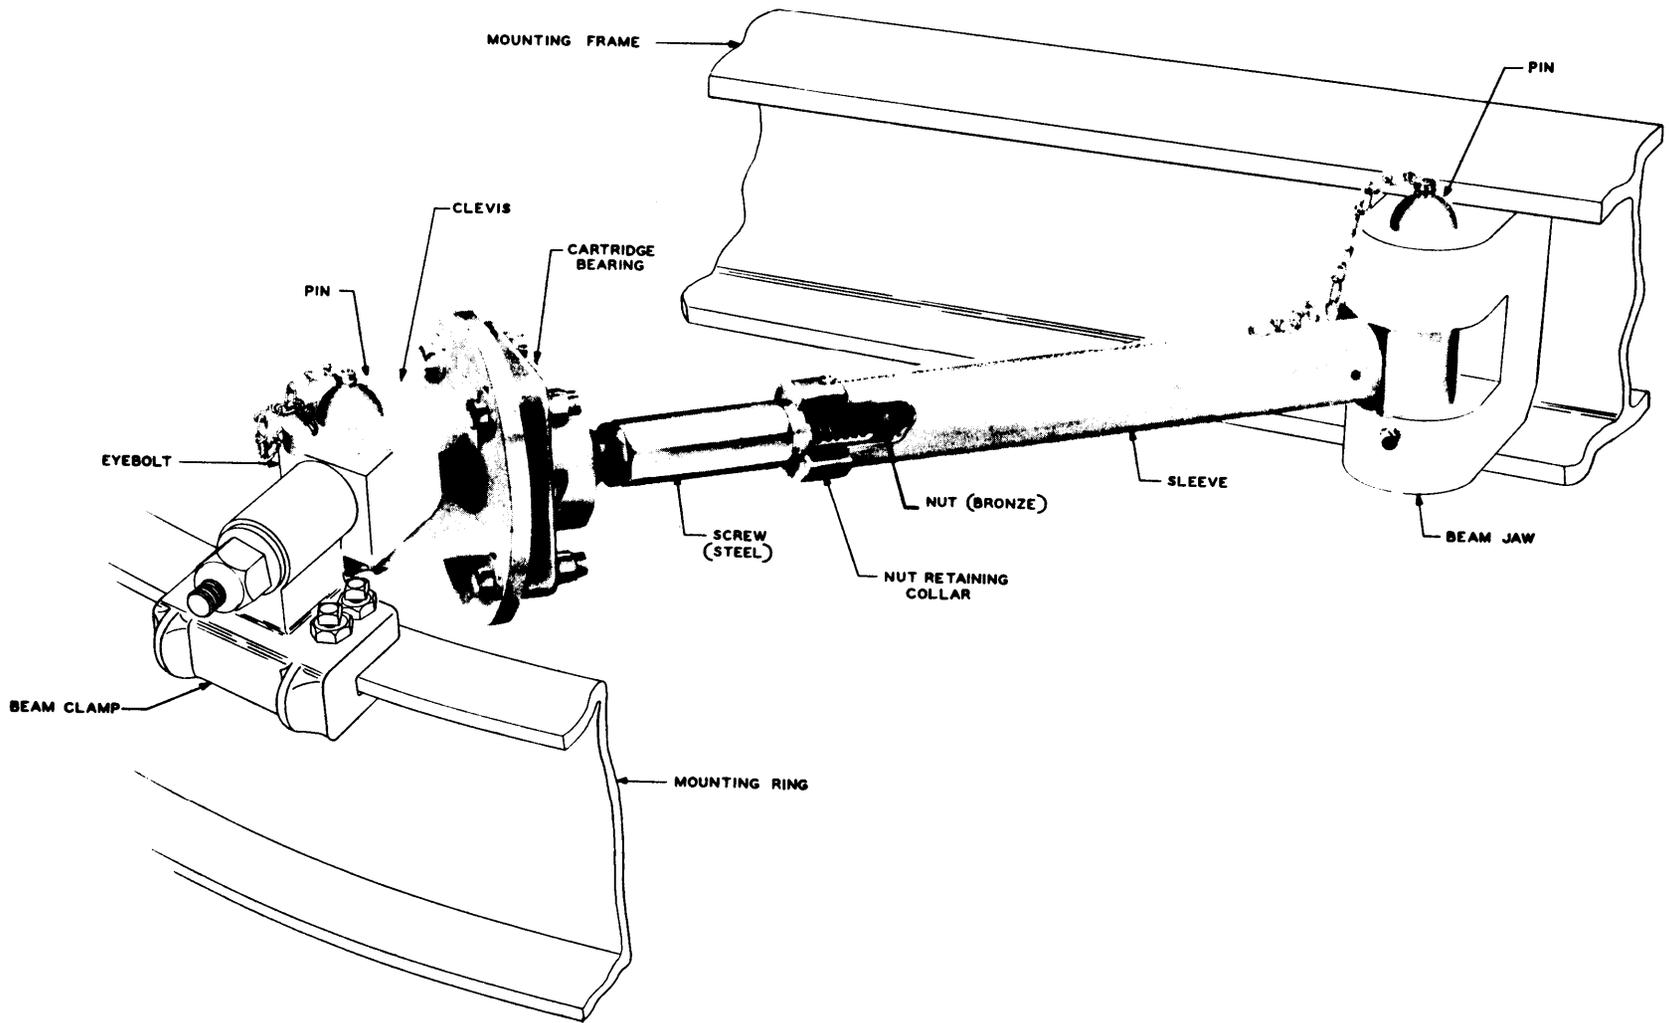

Fig. 6 - Azimuth Adjusting Screw
(1) Install the antenna azimuth adjusting screw at a convenient location between the circular mounting ring and the mounting frame as covered in Section 402-421-202 and shown in Fig. 6 of this section.